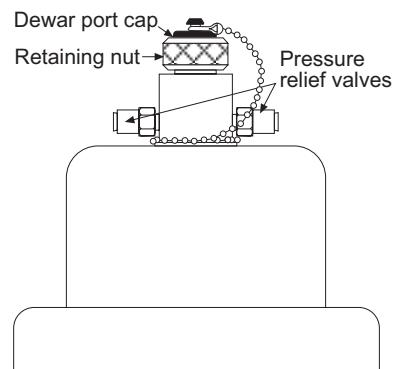

Figure 30. Dewar Ports and Valves
1. After the camera has been properly evacuated, loosen the retaining nut (Figure 30) a few turns, then remove the LN Dewar port cap by pulling it straight out.
**Note:** The pressure relief valves (Figure 30) underneath the protective covering will occasionally emit a plume of N2 gas and mist. *Continuous* hissing indicates that the vacuum in the Dewar jacket is probably inadequate. In this case, *first remove all LN from the Dewar*, then reconnect the camera to the vacuum pump.